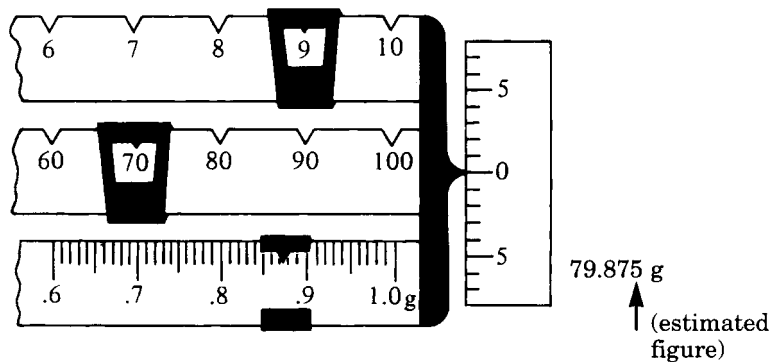

Figure 1.11
Smaller quantities of material can be weighed on this balance (to a maximum of 311 g). Figure 1.11 illustrates how a reading on this balance would be taken.
- i. The weight of the object on the pan is equal to the weights shown on each of the three beams (Figure 1.11). Weights may be estimated to 0.005 g.